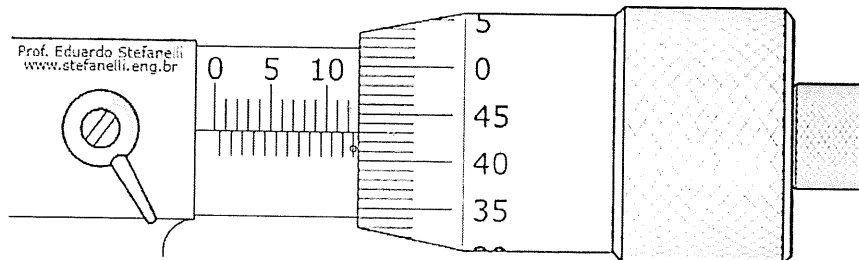

Figure 2
- d) With referring to figure 2, **solve** for the final measurement reading of the micrometer. (5 marks)